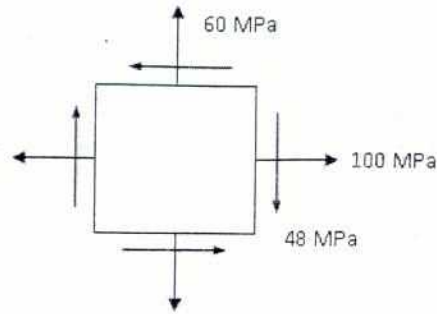

Fig. 3
- (b) A steel column of length L , having rectangular cross section of dimensions 25 mm x (10) 100 mm, supports an axial compressive load. Determine the limiting length of the member to behave as a short column, if both ends are fixed. The modulus of elasticity of the material is 200 GPa and the value of yield stress is 250 MPa.
- Q3 For the state of plane stress as shown in Fig. 3, determine (20)